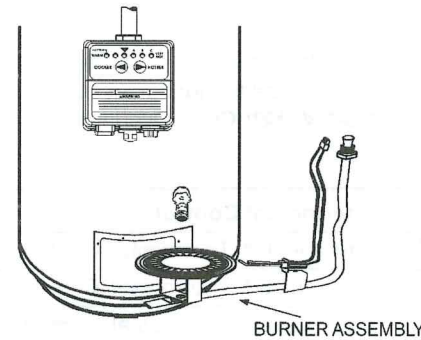

FIGURE 4
6. Remove the burner assembly from the water heater, see Figure 4. The burner assembly may be different than pictured.